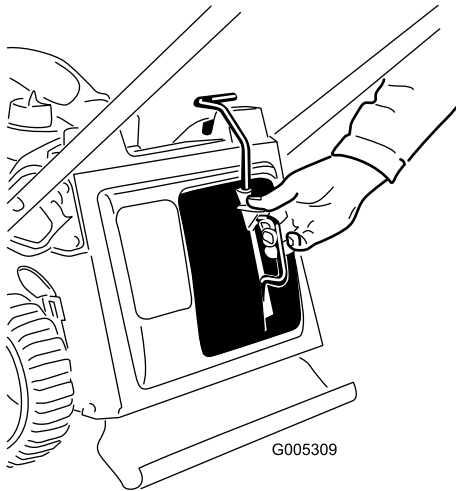
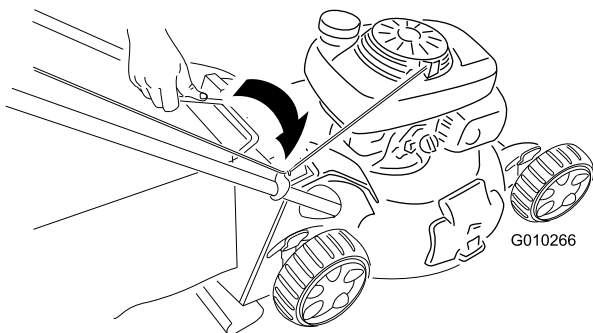

Figure 21
Figure 22
1. Install the mulch plug (Figure 21) or the grass bag (Figure 22) on the machine.